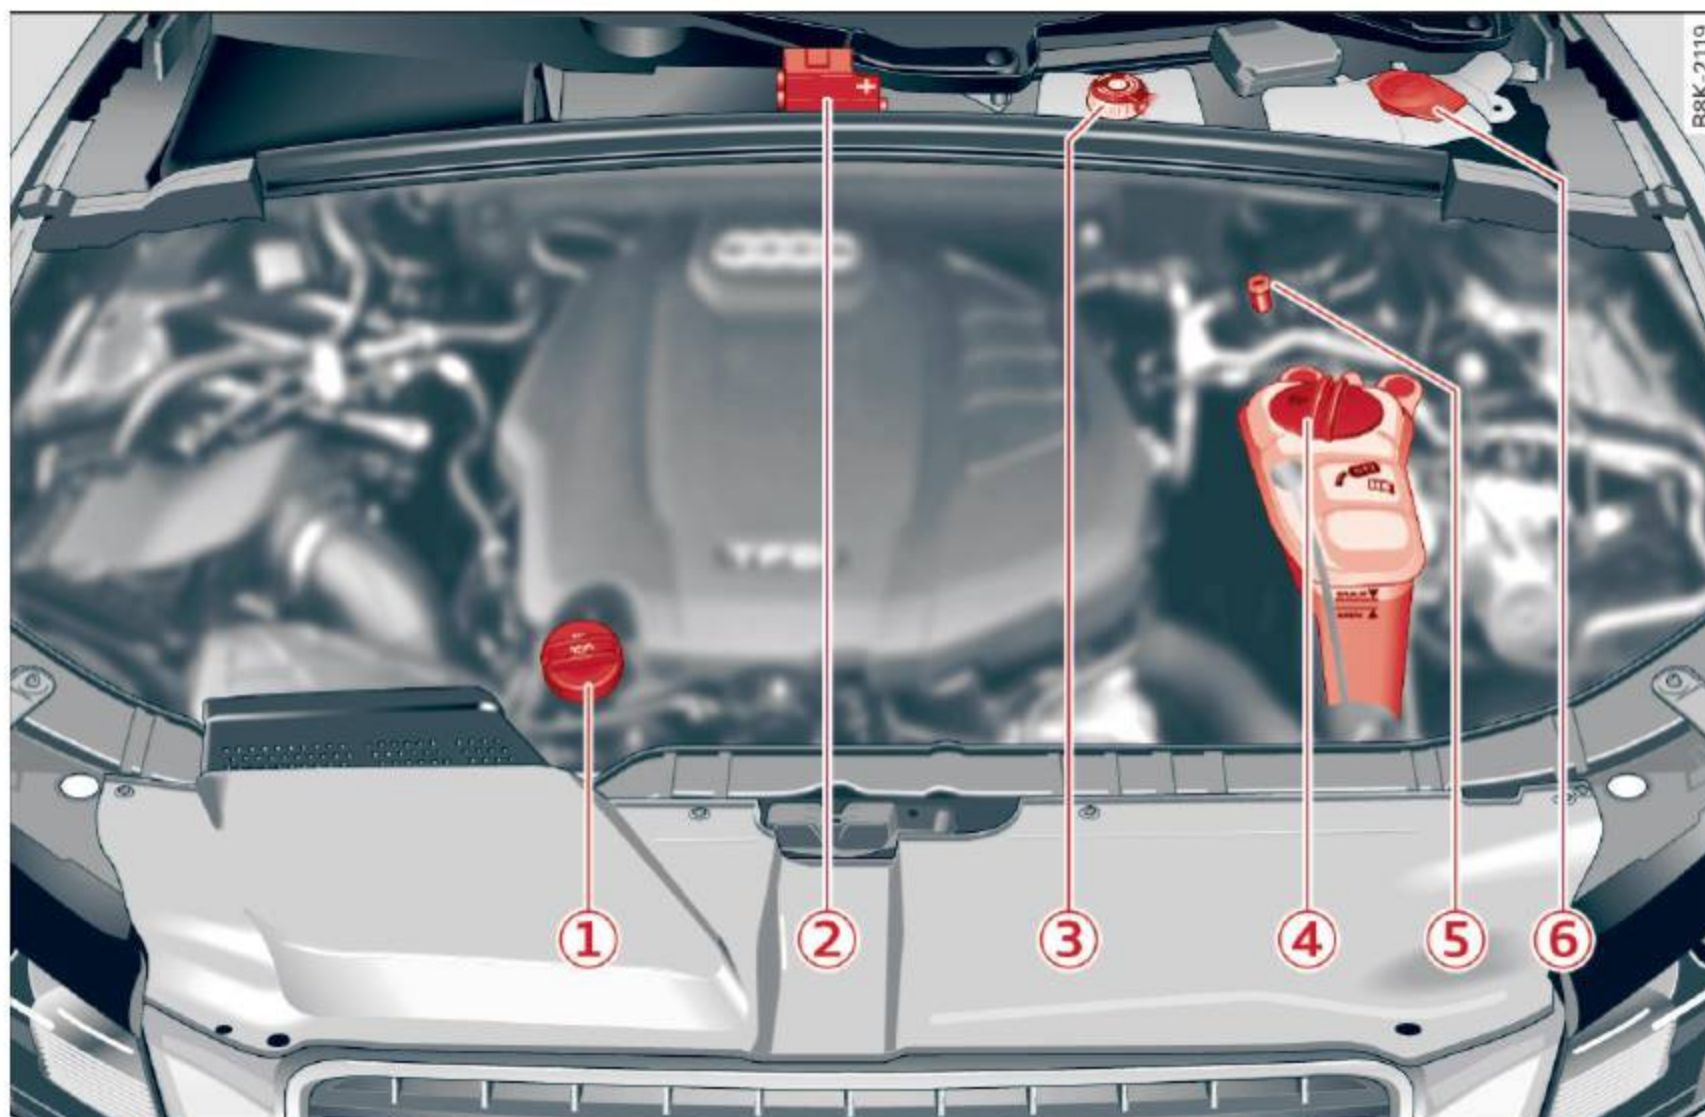

Fig. 169 Typical layout for containers and engine oil filler cap
The position of the engine oil filling hole ⇒ *fig. 169* (item ③) can differ depending on the engine design.
- ▶ Unscrew the cap  to the engine oil filling hole ⇒ *fig. 171*, ⇒ *page 218*, *fig. 169*.